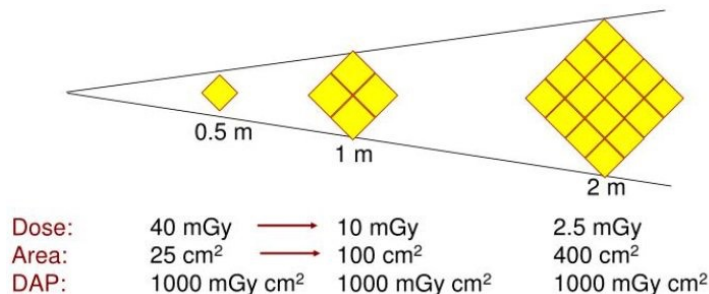

FIGURE 26
- / The DAP is **independent of the distance to focus**, which facilitates the comparison of measured DAP values in dose survey studies (Fig. 26).